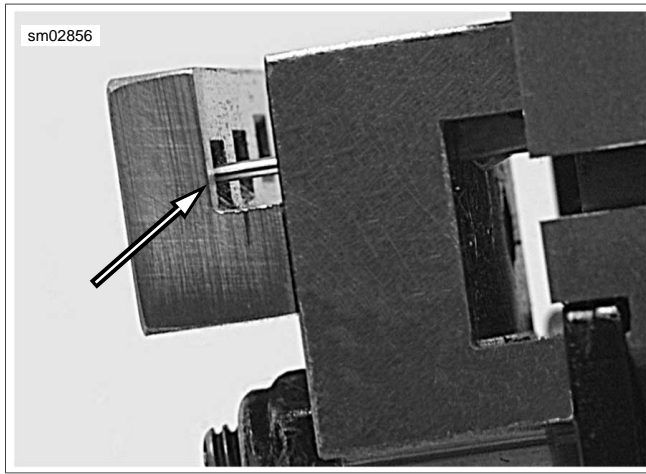

Figure A-33. Pin Terminal against Pin Locator Bar
- b. **Pin Terminal:** See Figure A-33. The tip of a pin terminal passes through the socket locator bar and stops in the notch in the face of the pin locator bar.